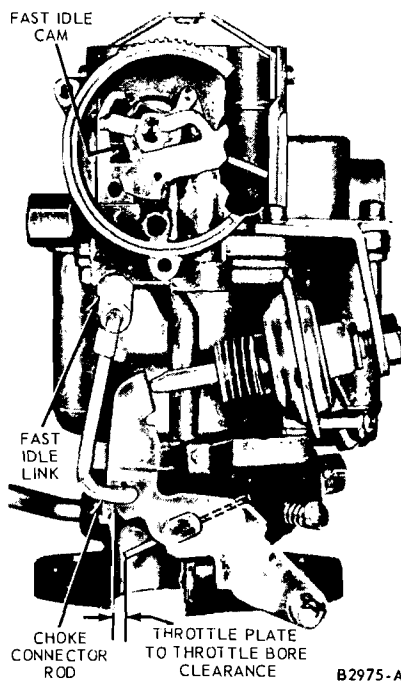

FIG. 31—Fast Idle Speed Adjustment — Carter Model YF 1-V
1. Open the throttle plate and hold the choke plate fully closed to allow the fast idle cam (Fig. 31) to revolve to the fast idle position.
2. Close the throttle and use a drill with a diameter equal to the specified clearance to check the clearance between the throttle plate and throttle body bore (Fig. 31). To adjust the clearance, bend the choke connector rod in a direction to open or close the throttle as required.